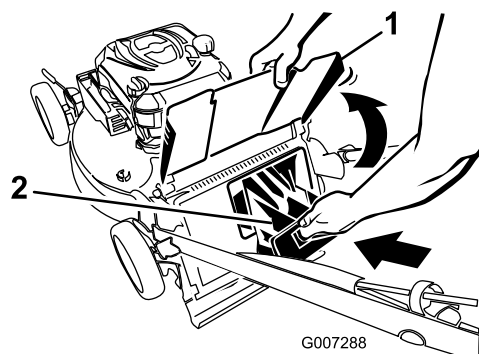
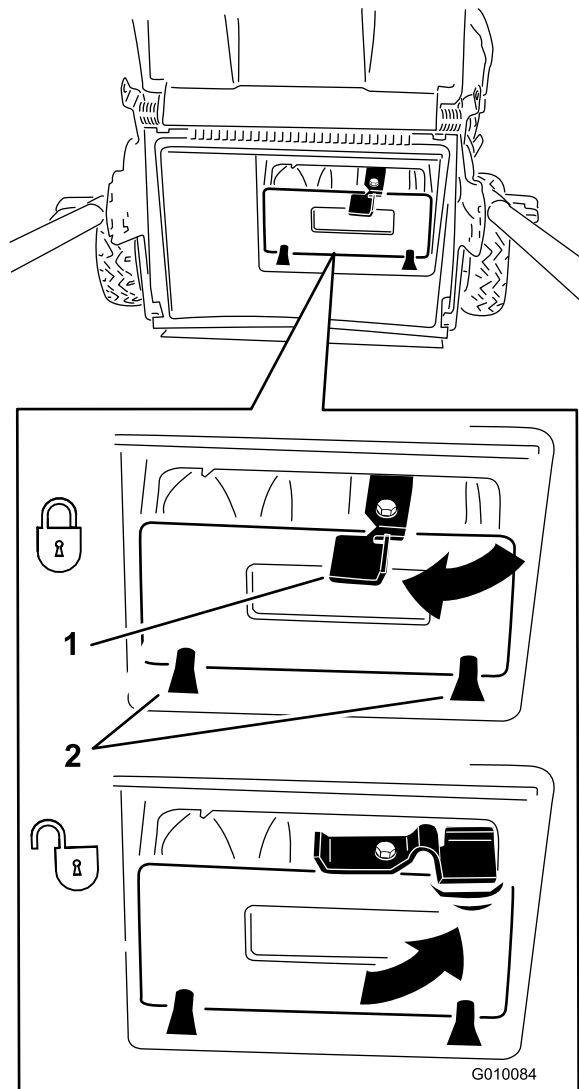

Figure 21
Figure 22
**Important:** Ensure that the rear plug is locked in place. To lock the plug: Raise the rear door (Figure 21), firmly push the plug in until it snaps into place behind the tabs, and rotate the lever on the plug to the left (Figure 22).
**Note:** To unlock the rear plug, rotate the lever on the plug to the right (Figure 22).